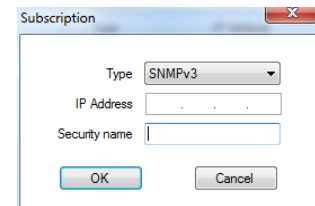

Figure 50 - "Subscriptions" window
*“Add”*: To add a subscriber (SNMP Manager or Syslog collector), click the add button and a new window will open (refer to Figure 50).